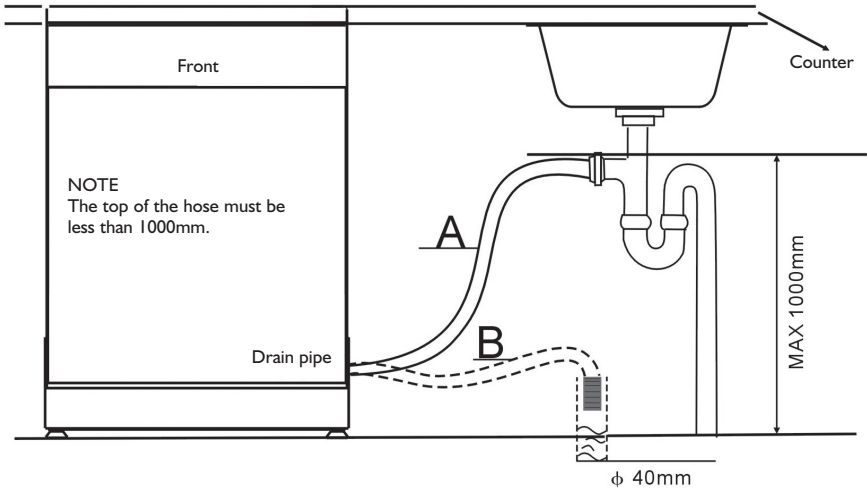

Fig. 3
2. Connect the drain hose. Refer tp diagram (Figure 3).